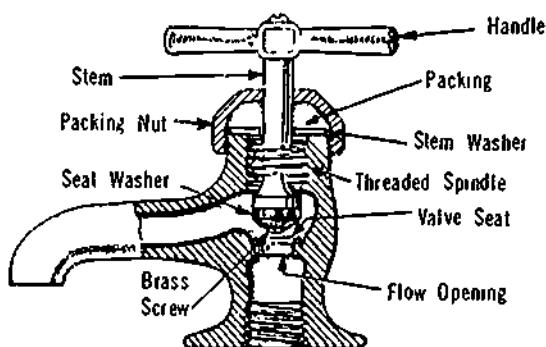

Figure 23-1. Components of the Basic Compression-Type Faucet
1. Repairs to the basic compression-type faucet shown in Figure 23-1 require only a few tools and the necessary materials.